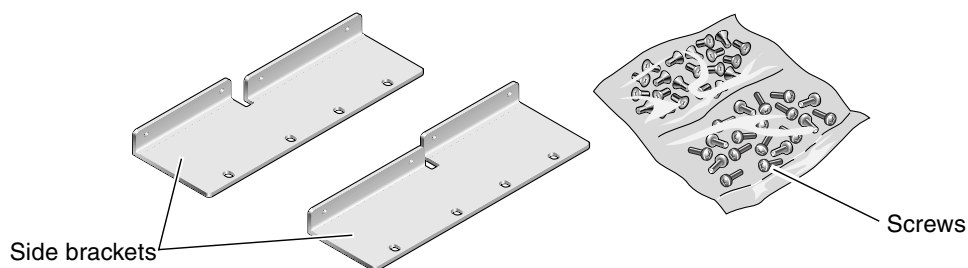

FIGURE 3-23 Contents of the Hardmount 23-Inch 2-Post Kit
1. Get the side brackets from the rack kit (FIGURE 3-23).